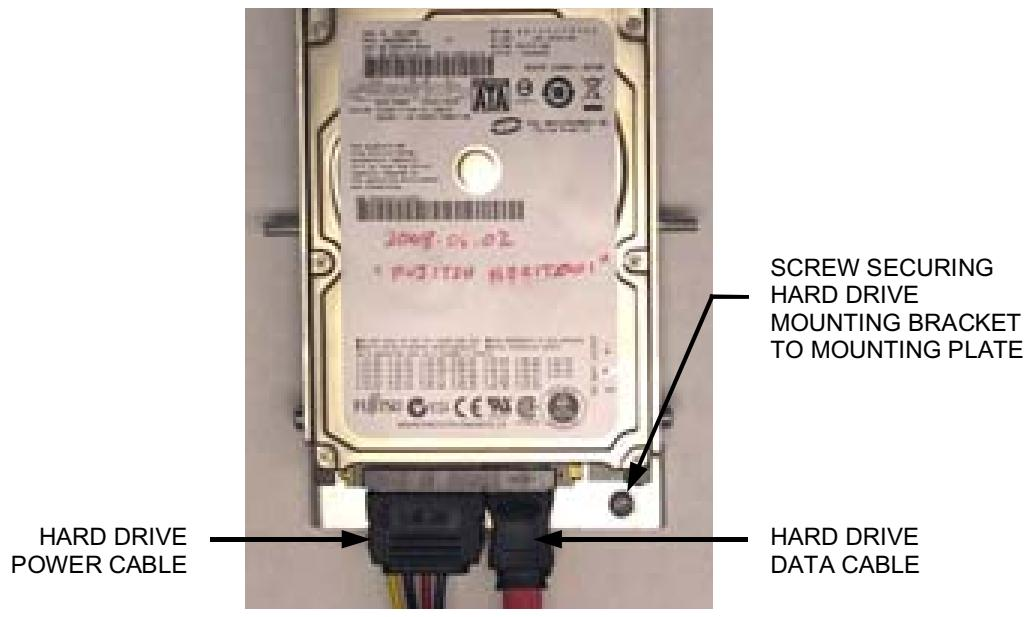

FIGURE 4 - CLOSEUP OF SATA HARD DRIVE
4. Remove the screw securing the hard drive mounting bracket to its mounting plate (see Figure 4).
1. Slide the hard drive assembly onto the game's mounting plate and screw it into place to secure it (see Figure 4).
2. Attach the hard drive data and power cables (see Figure 4).